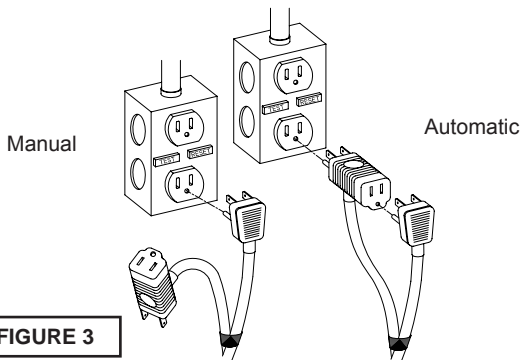

FIGURE 3
- 6.) Figure 3 shows a typical connection for pumps with the wide angle float and piggy-back plug, for manual and automatic operations.